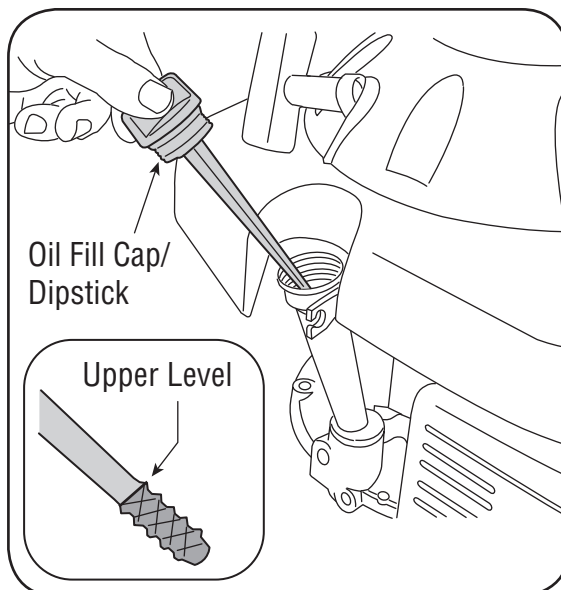

Figure 3
- Remove the oil filler cap and wipe the dipstick clean. See Figure 3.
3. If the level is low, slowly add oil to the upper limit on the dipstick. See Figure 3 inset.